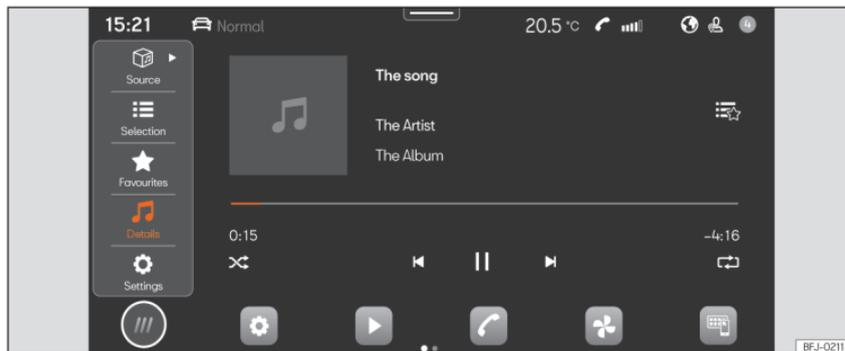

Fig.124 Schematic representation: Multimedia view
- Press **HOME** > ►►► **Fig. 124**.